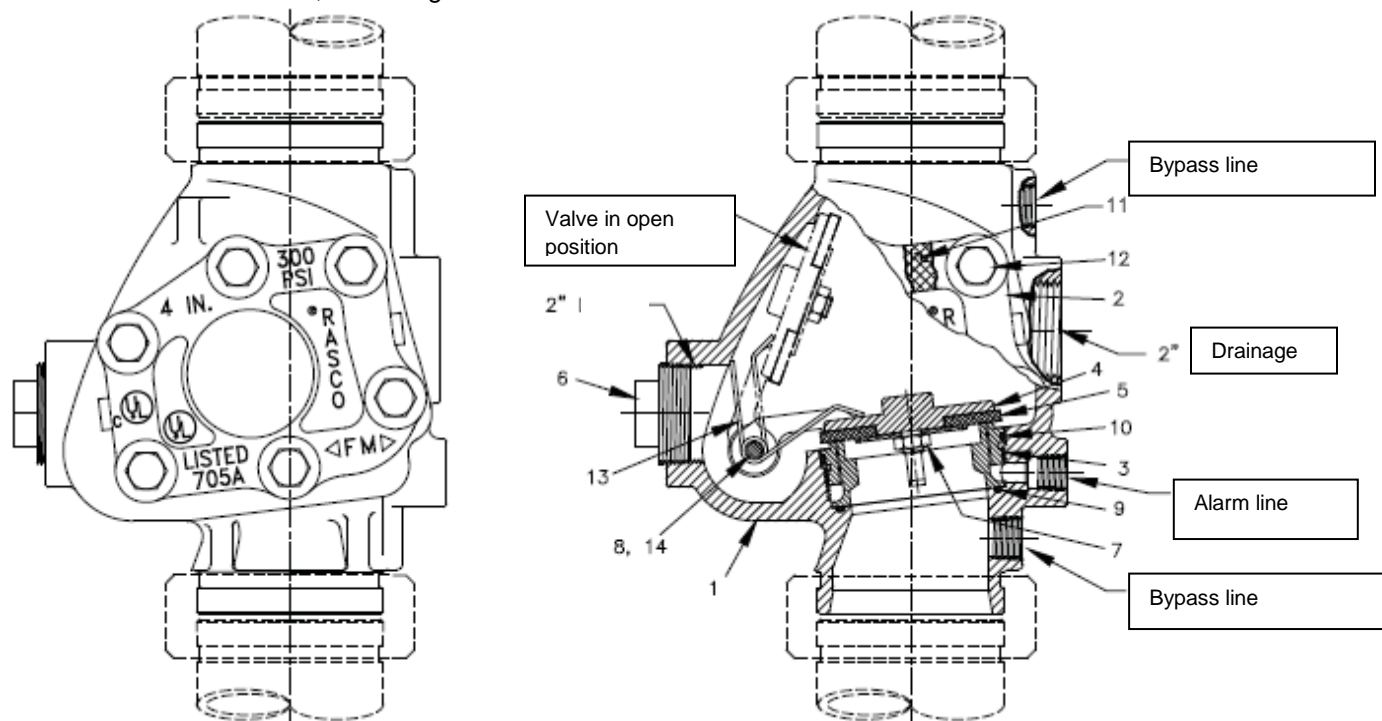

Figure 2
The normal position of the alarm valve is shown in Figure 2.
the seat (item 3) Fig. 2 of the alarm valve, leaks between the clapper (item 4) and the sealing surface (item 5) or leaks at the check valve in the bypass line.